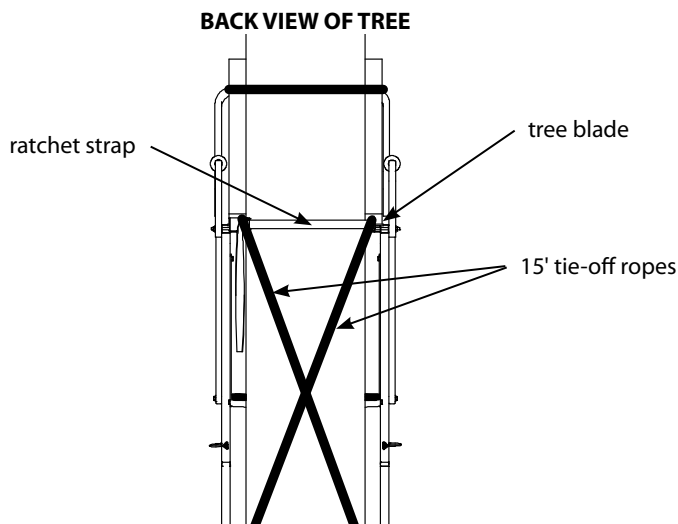

Figure 1
2. a. Position (2) people at the platform end of the ladder, lift the platform end, and continue uprighting by walking toward bottom end of ladder and moving hands along ladder legs. **Stand ladder up against chosen straight tree on dry, level ground.** Use caution when ladder comes over center against tree.
- e. Wrap the previously attached 15' tie-off ropes hanging down from platform, around the back side of tree in opposite directions of each other. Pull the ropes snug and tie them to the ladder at the stabilizer bar height location. This ground level ladder-to-tree attachment will prevent the ladder from pulling away from the tree while ascending to top for final ratchet strap attachment. The same holds true when ladder removal is necessary. **SEE FIGURE 1.**